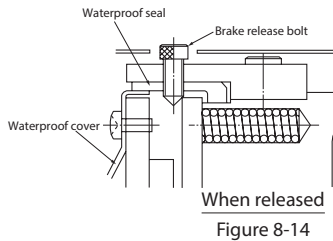

Figure 8-14
- (1) First remove the brake release bolts from the 2 opposing angles and remove the release prevention spacers. Reinsert the bolts and rotate with a hexagonal wrench to release the brake. Be careful not to over rotate the brake release bolts. (Rotate the brake release bolts while checking to see if the brake is released. (See Figures 8-14, 8-15)